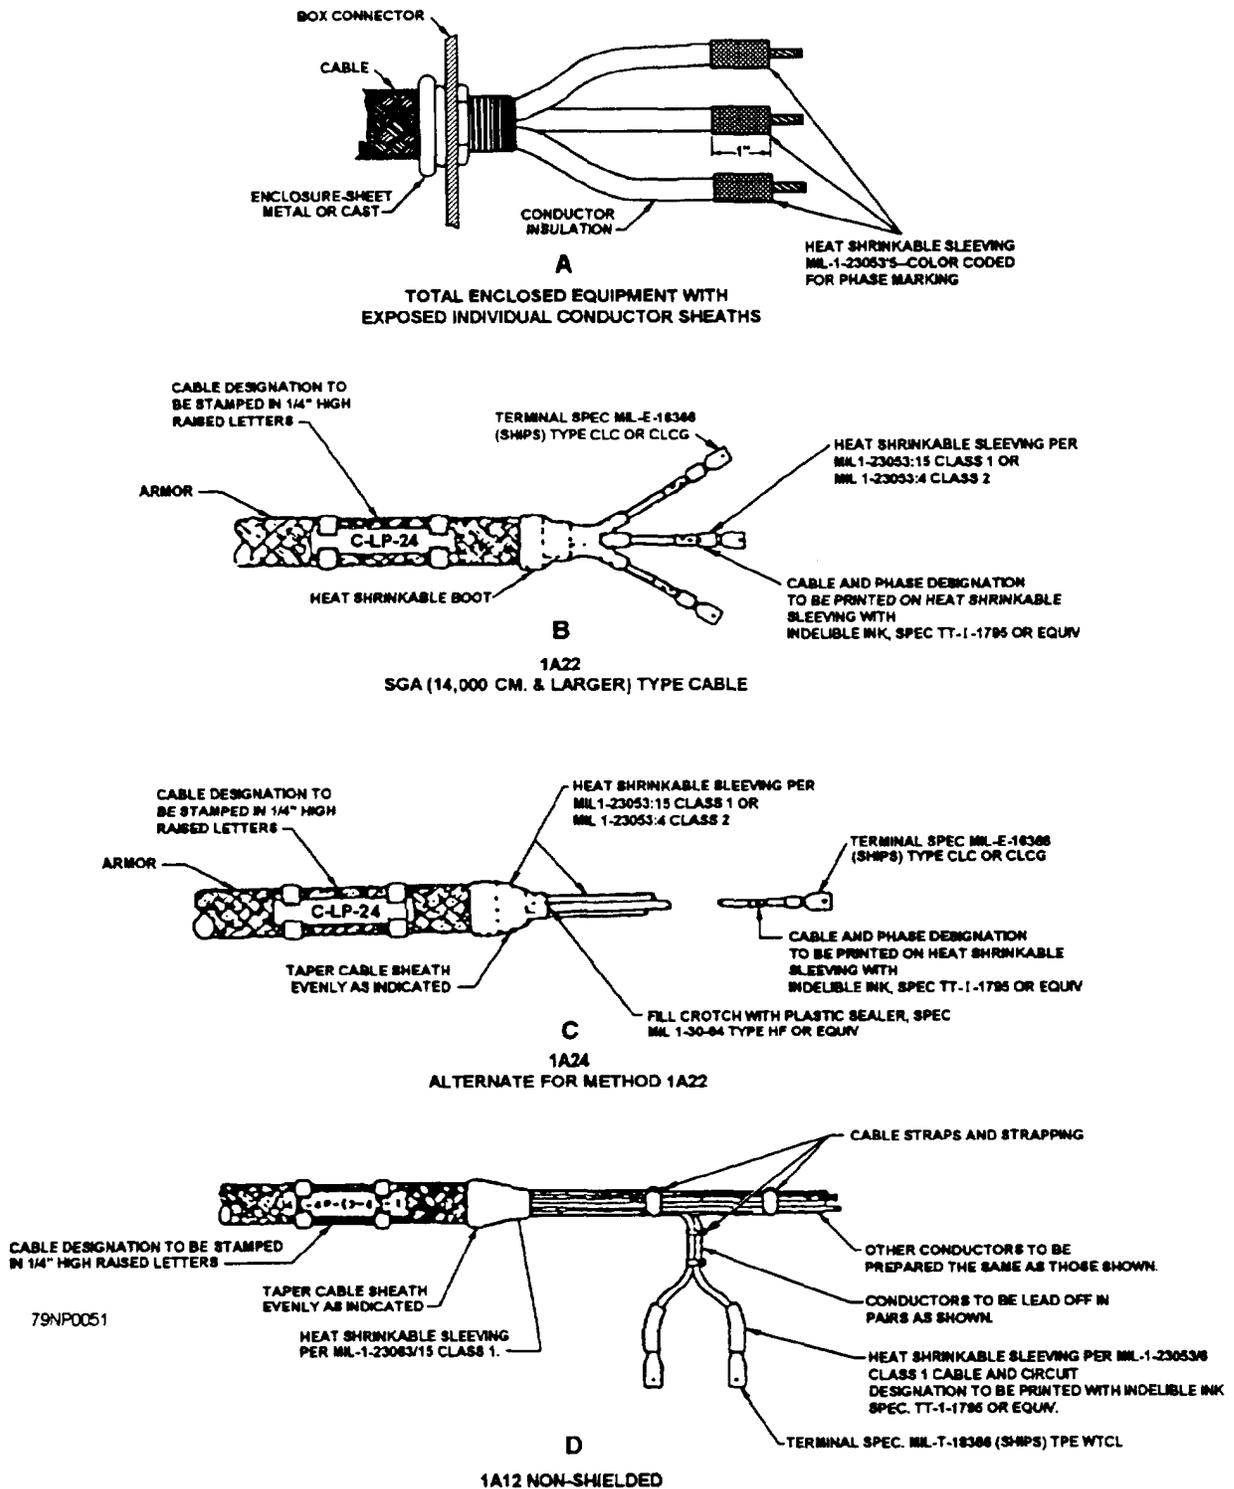

Figure 2-5.—Protecting cable ends.
- For watertight cables entering open equipment (such as switchboards), use the method shown in figure 2-5, view B. An alternate method is shown in figure 2-5, view C.
- For nonwatertight cables entering open equipment, use the methods as shown in figure 2-5, views D and E.